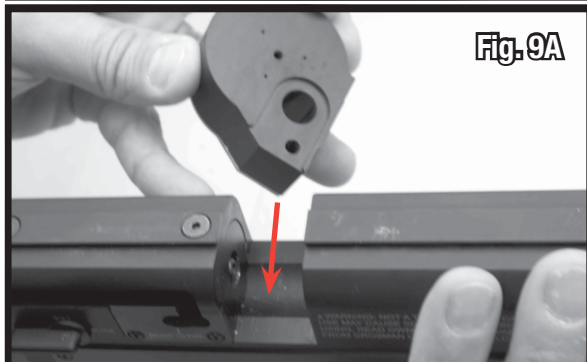

Fig. 9A
- With the cover of the clip facing the butt of the airgun insert the clip from the left side and push it inward until it snaps into place. (Fig. 9A-C)